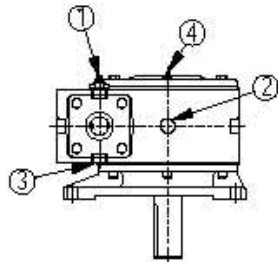

Figure W11:Output Vertical Down
- 1 Remove Fill and Breather Plug 1, figure W11, and Oil Level Plug 2, figure W11.**
- 2 Fill gearbox with recommended lubricant to a level near the centerline of the uppermost horizontal shaft or until lubricant starts coming out Oil Level Plug 2, figure W11.**
Since the gearbox is positioned with the output vertically down, an adequate amount of lubrication must be supplied to the Bearing through grease fitting 4, figure W11, as indicated above.